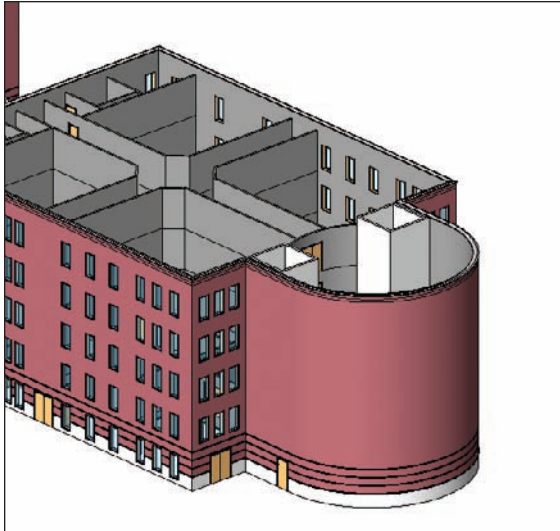

FIGURE 4.55 Using Copy/Paste, align the windows to the higher floors. This will influence your floor layout for each level.
7. For the windows, go to a 3D view, and using Copy/Paste, align them up all the way to Level 5. This way, you know your windows are aligned, and you can follow this procedure in your room layout for each floor (see Figure 4.55).